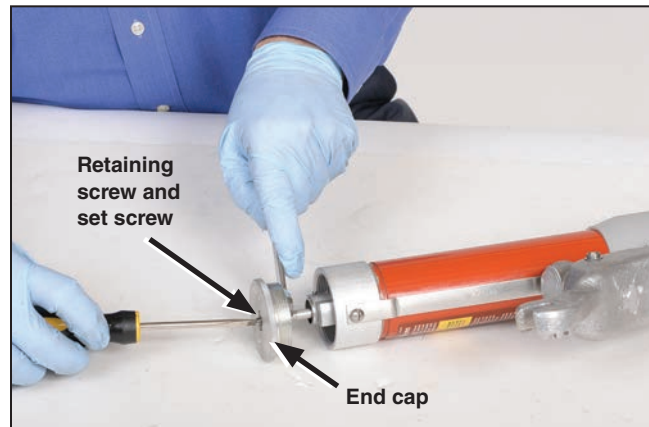

Figure 46. Install the end cap.
- STEP 41.** Reposition the end cap, and use the retaining screw and set screw to secure it to the moving contact assembly. Tighten the set screw last. See Figure 46.